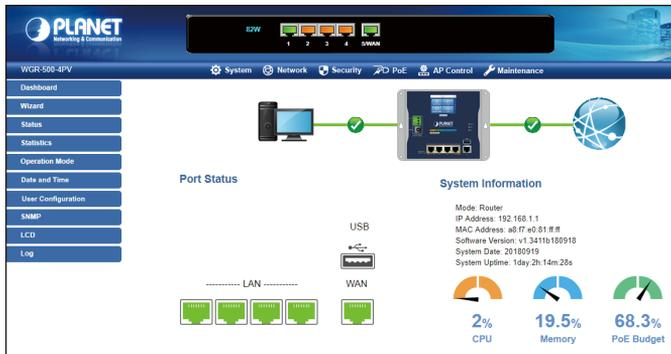

Figure 5-3: Web Main Screen of Industrial Router
3. After entering the password, the main screen appears as Figure 5-3 shows.